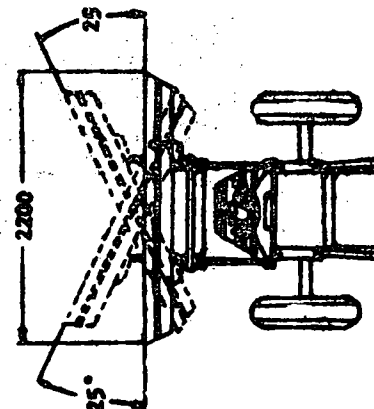

Fig. 3
*Front mounted grader.* It is not used too often with agricultural tractors because of its limitations - narrow angle (up to 30°) and a maximum of 0.15m penetration in the soil in each pass (Fig. 3).